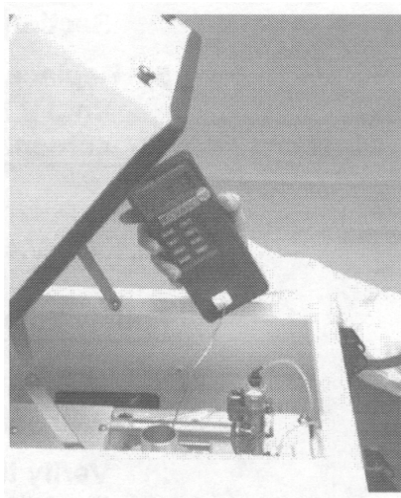

Figure Z.4.0.3
- b. Insert the audit temperature sensor into the sampling chamber as shown in Figure Z.4.0.3. Position the audit temperature sensor as close as possible to the sampler's filter temperature sensor without allowing the two sensors to touch.